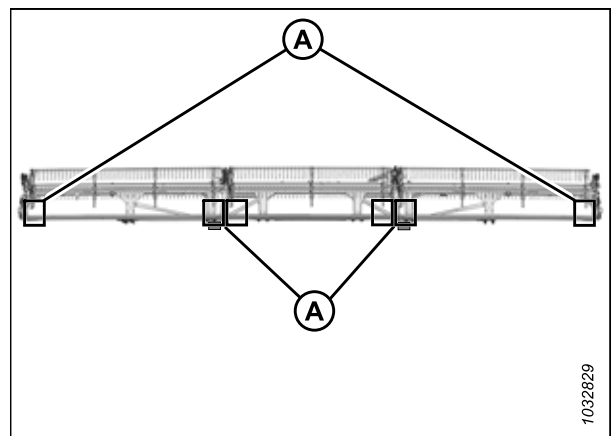

Figure 4.266: FlexDraper® Measurement Locations – Triple Reel
- Triple-reel headers: Figure 4.266, page 723